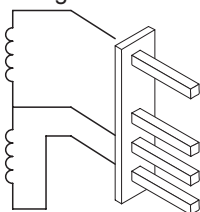

Figure 8.11
- 3 Measure the electrical resistance between the connector pins of the on-off operators as illustrated in Figure 8.11.